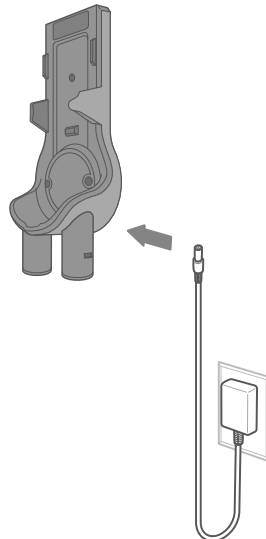

Figure 2.3
2. Insert the charger into the charging port on the dock. Plug the charger into the outlet [Figure 2.3].